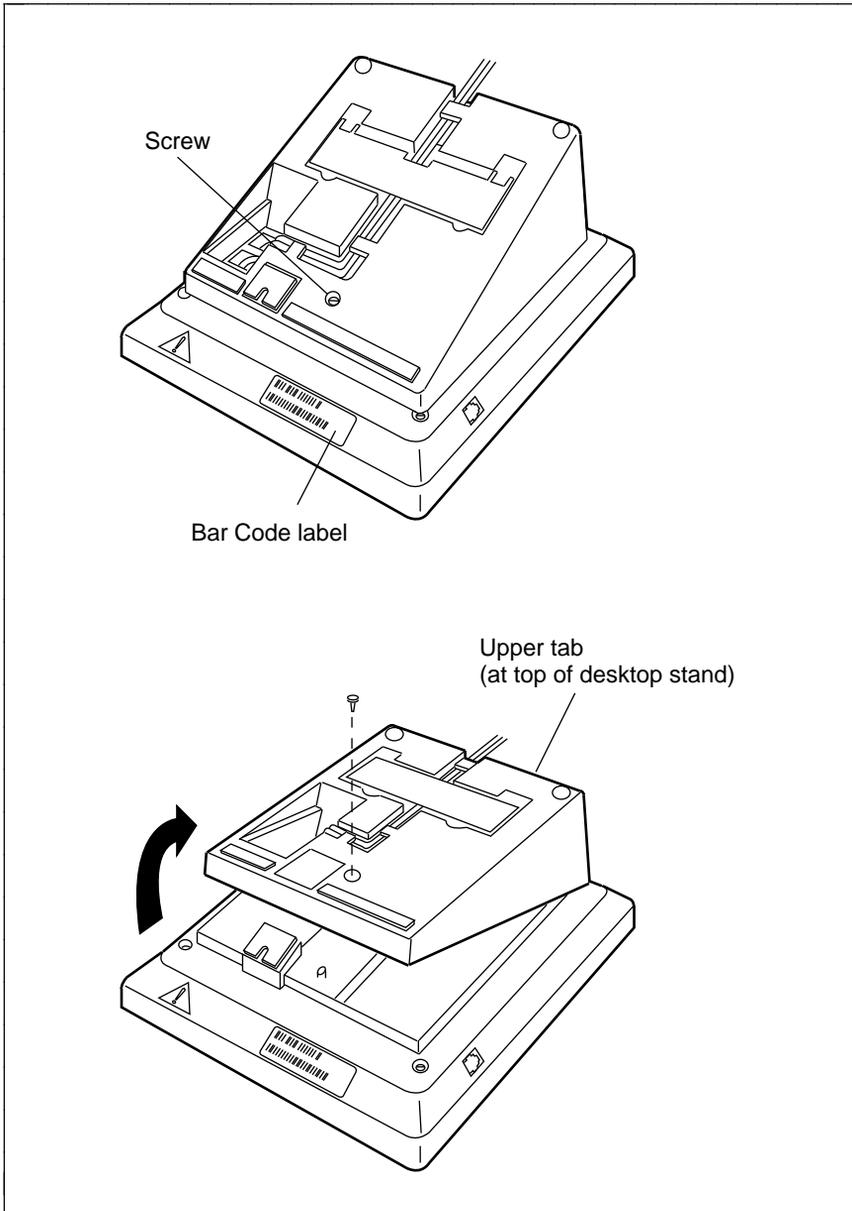

FIGURE 2 Removing the Voice Terminal Desktop Stand
- 2 Remove the screw on the lower center of the stand. See **Figure 2** for the location of the screw.
- 3 Remove the desktop stand attached to the base of the voice terminal by tabs on the top and bottom of the stand. (See **Figure 2**).
- 1 Replace the desktop stand by placing the upper desktop stand tab in the voice terminal slot at the top of the voice terminal and make sure the stand is oriented as in **Figure 2**.
- 3 Replace the screw in the hole from which you removed it. See **Figure 2**.